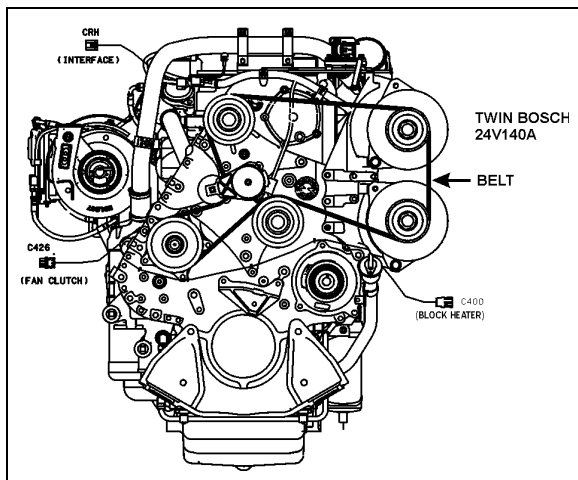

FIGURE 20: ALTERNATOR DRIVE BELT
1. Insert a 3/4" socket drive into the automatic belt tensioner opening (Fig. 20).